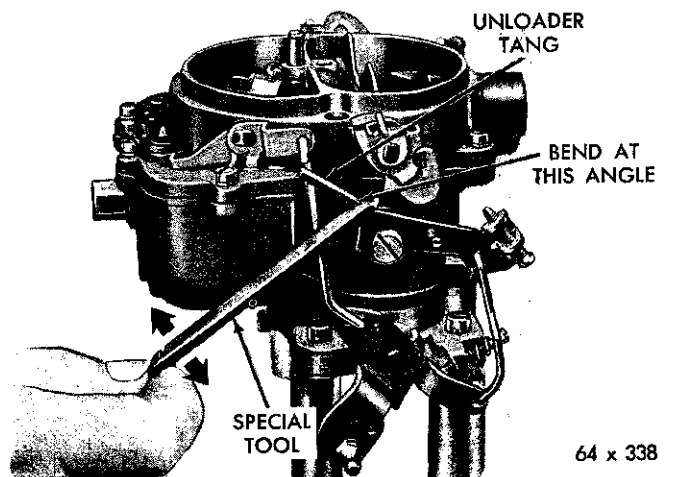

Fig. 15—Bending the Unloader Tang
(2) With a finger lightly pressing against the valve, a slight drag should be felt as the gauge is being withdrawn. If an adjustment is necessary, bend the tang on the fast idle lever, using Tool T109-22, as shown in Figure 15, until the correct clearance has been obtained.